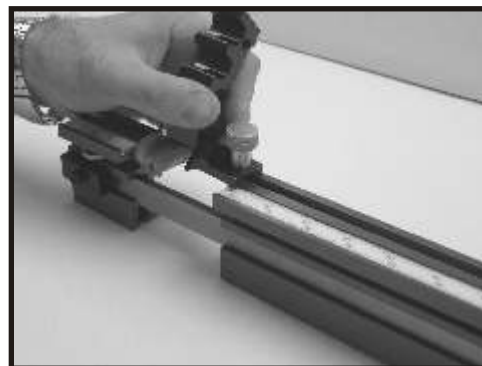

FIG. 4
4. Now attach the fence stop to the fence by sliding the square nut into the track along the top of the main fence. (Fig. 4).